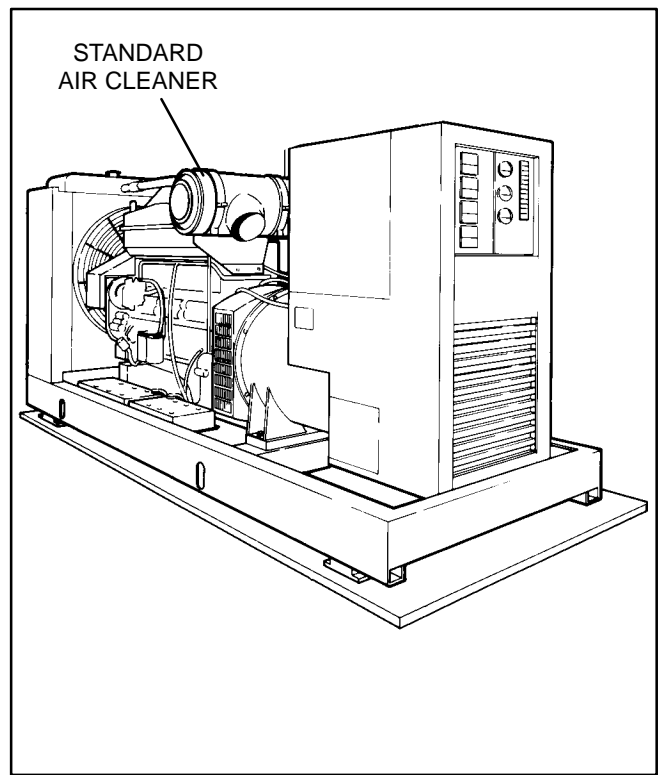

FIGURE 5-5. STANDARD AIR CLEANER
**To Service the Air Cleaner:** See Figure 5-5 and 5-6.